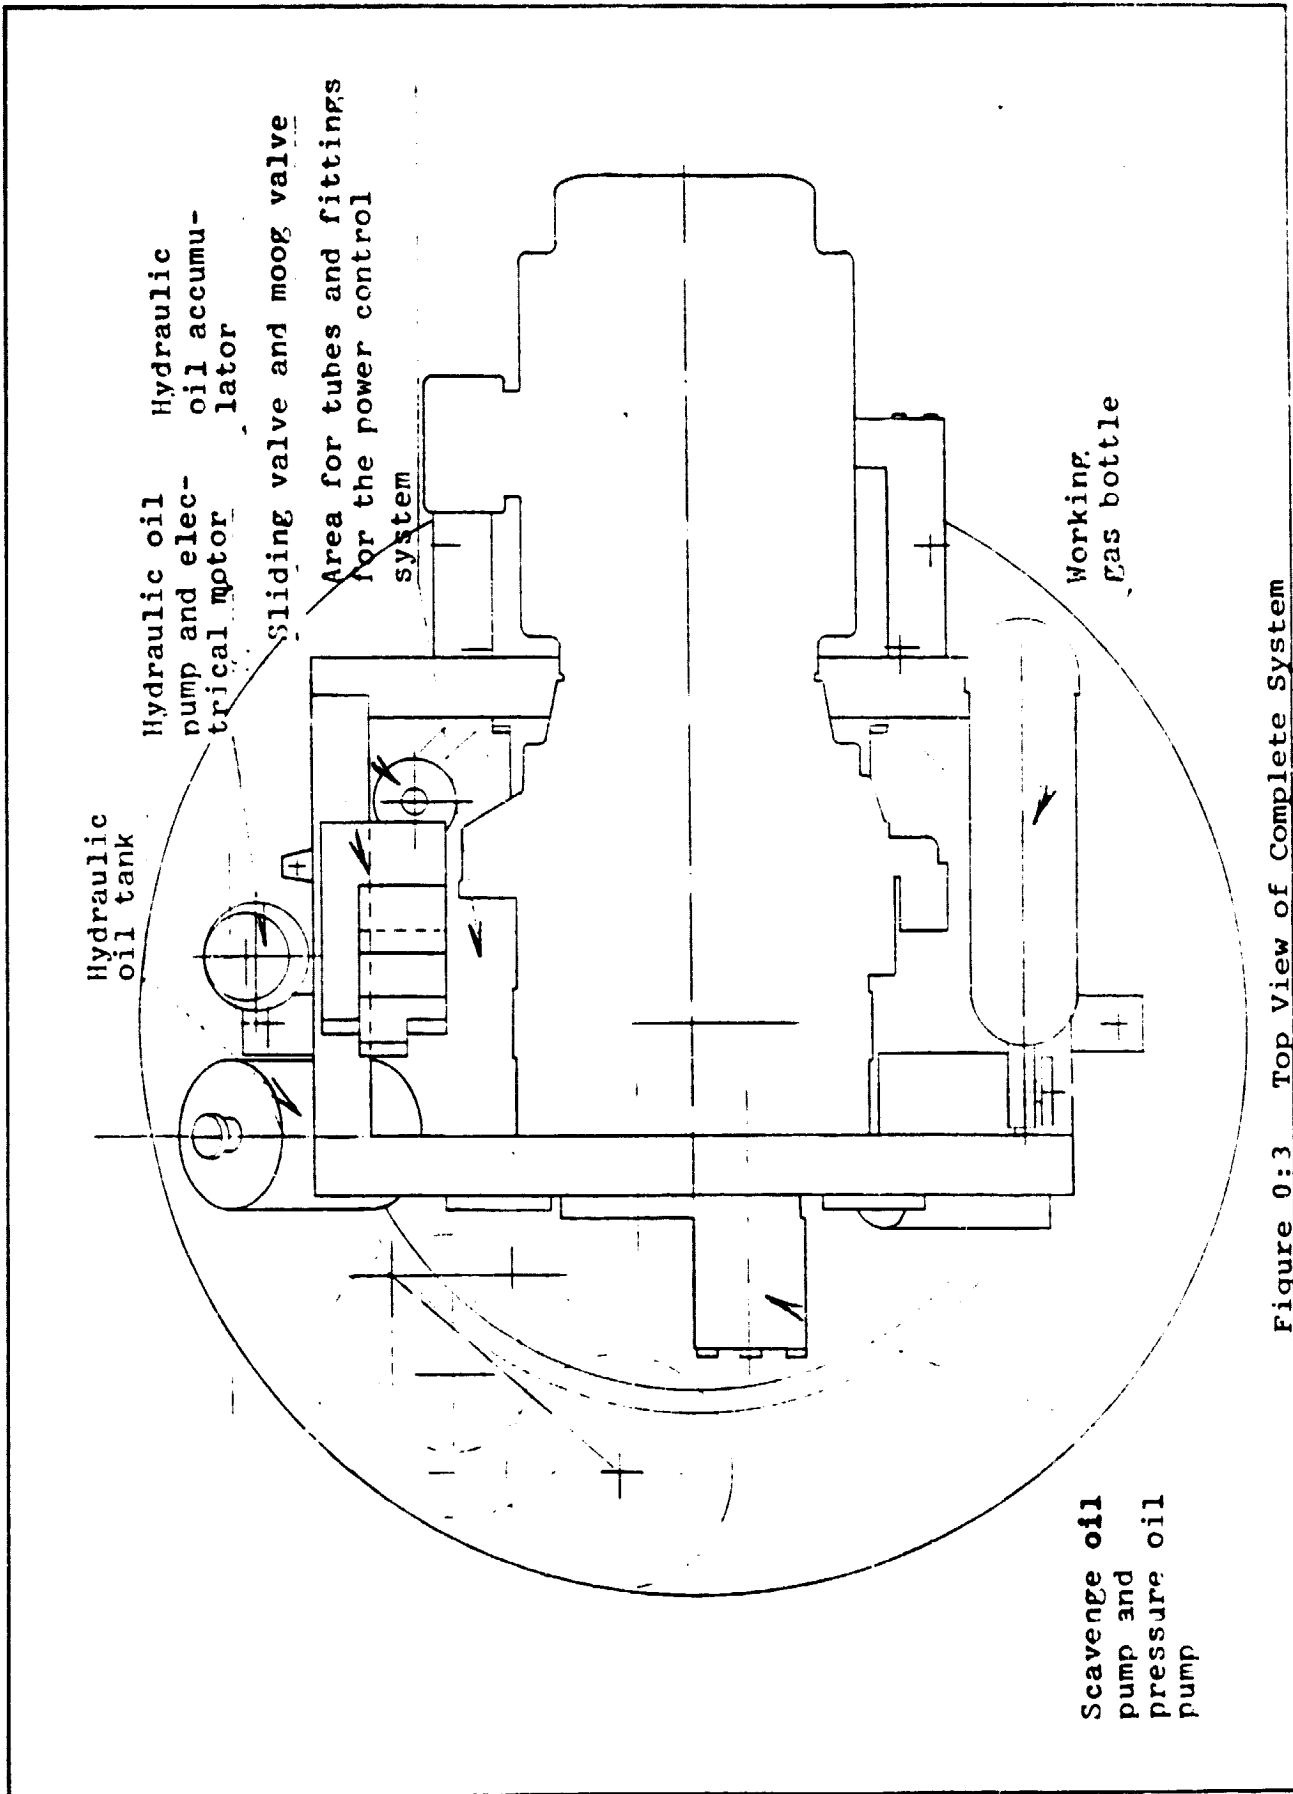

Figure 0:3 Top View of Complete System
- The concentrator may now start tracking the sun. The start up sequence is illustrated in figure 0:4.